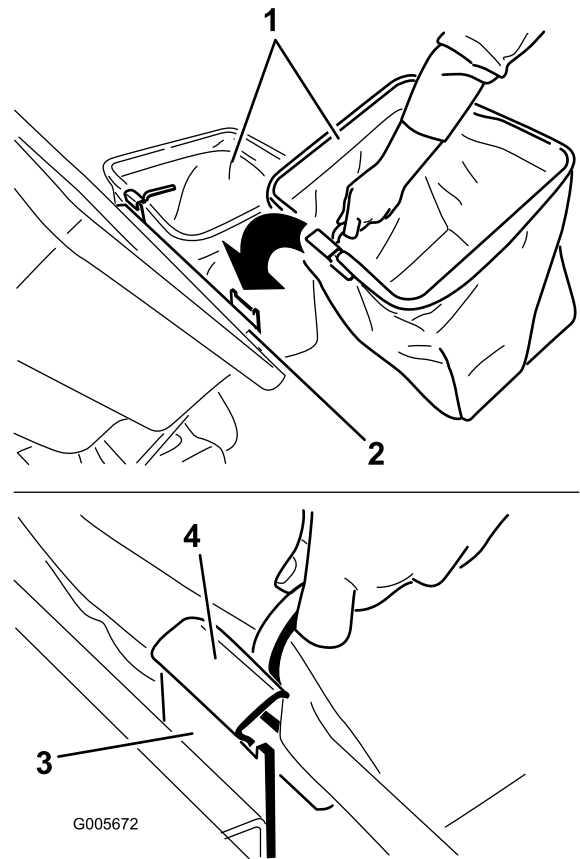

Figure 25
5. Install the bags by sliding the bag frame hooks onto the retaining brackets (Figure 25).